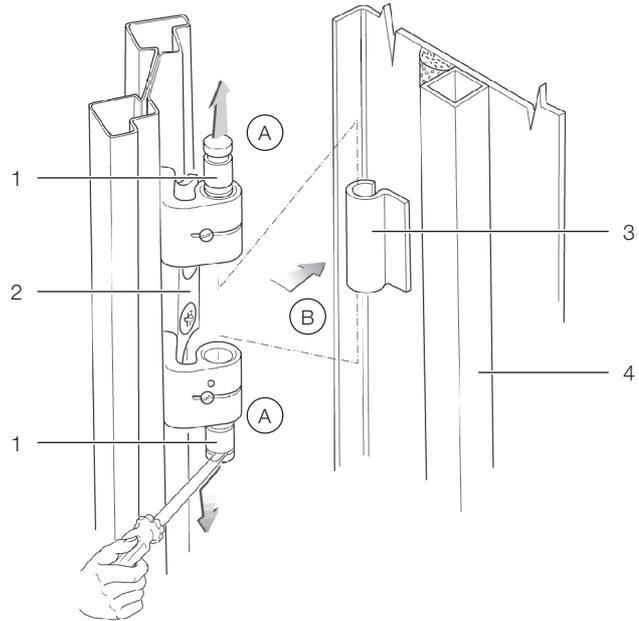

Fig. 17: Removing a door hinge
- Loosen the hinge bolts from the four door hinges by raising them with an appropriate tool (e.g. screwdriver). Pull the bolts out of the hinge pin holding fixture as far as they will go (see fig. 17, step A). Begin with the lowest door hinge.
- Remove the server enclosure door (fig. 17, step B).